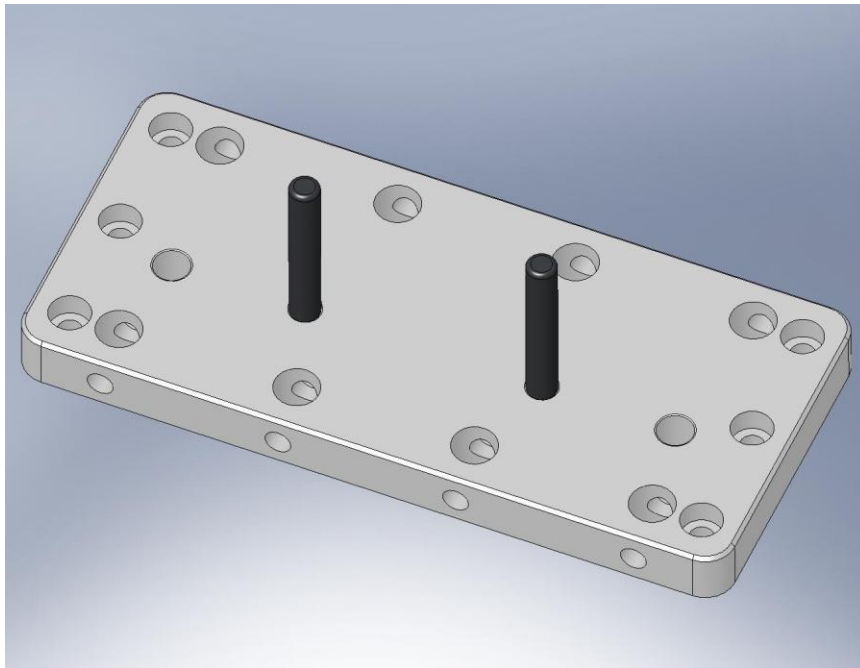

Figure 2.9. Dowel pins pressed into Keel Wall (D071063). Note orientation of counterbores on side mounting holes.
- Insert Heli-Coils into (3) **Rib, Rad, GS-13 Out 1** plates (D071055):
- Insert Heli-Coils into (6) **Keel Walls** (D071063):
- Press (2) 1/2"x4.0" dowel pins (McMaster-Carr #90145A729) into each of (6) **Keel Walls**, as shown in Figure 2.9. Pins should come flush with back surface on **Wall**. This completes the **Keel Wall Assembly** (D071425).